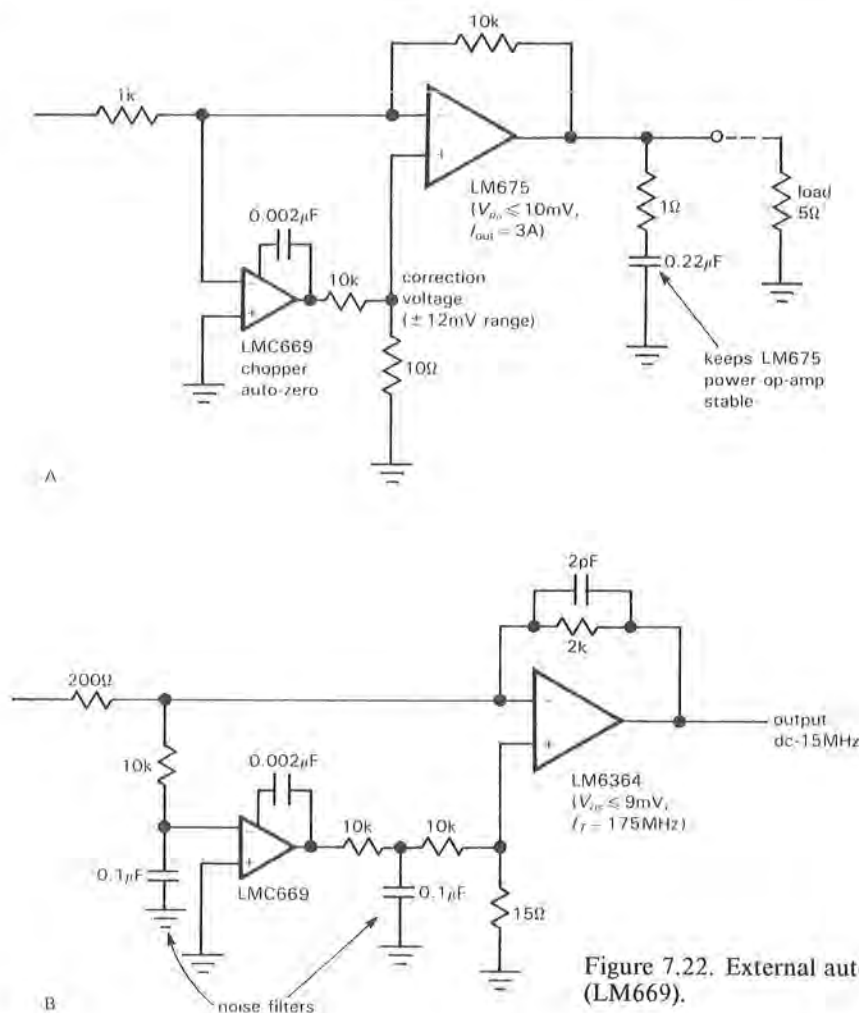

Figure 7.22. External auto-zeroing IC (LM669).
- **External auto-zero.** National makes a nice “auto-zero” chip (the LMC669) that can be used as an outboard nulling amplifier to make any op-amp of your choosing into an auto-zeroing amplifier (Fig. 7.22). It works most naturally with the inverting configuration, as shown, generating an error voltage to the noninverting input to maintain zero input offset. It doesn’t do as well as the dedicated auto-zero amplifiers we’ve been considering: The V_{os} specification is $5\mu\text{V}$ (typ), $25\mu\text{V}$ (max). However, it does let you use the auto-zero technique with any op-amp. You might, for instance, use it to zero an imprecise but high-power or high-speed op-amp. The circuits shown are good examples. The LM675 is a nice high-power op-amp (3A output current, with sophisticated on-chip safe-operating-area and thermal protection), but with a maximum offset voltage of 10mV. The auto-zero reduces that by nearly a factor of 1000. Likewise, the LM6364 is a fast op-amp ($f_T = 175\text{MHz}$, $\text{SR} = 350\text{V}/\mu\text{s}$) with maximum offset voltage of 9mV, here reduced by a factor of 400. Note the RC filter